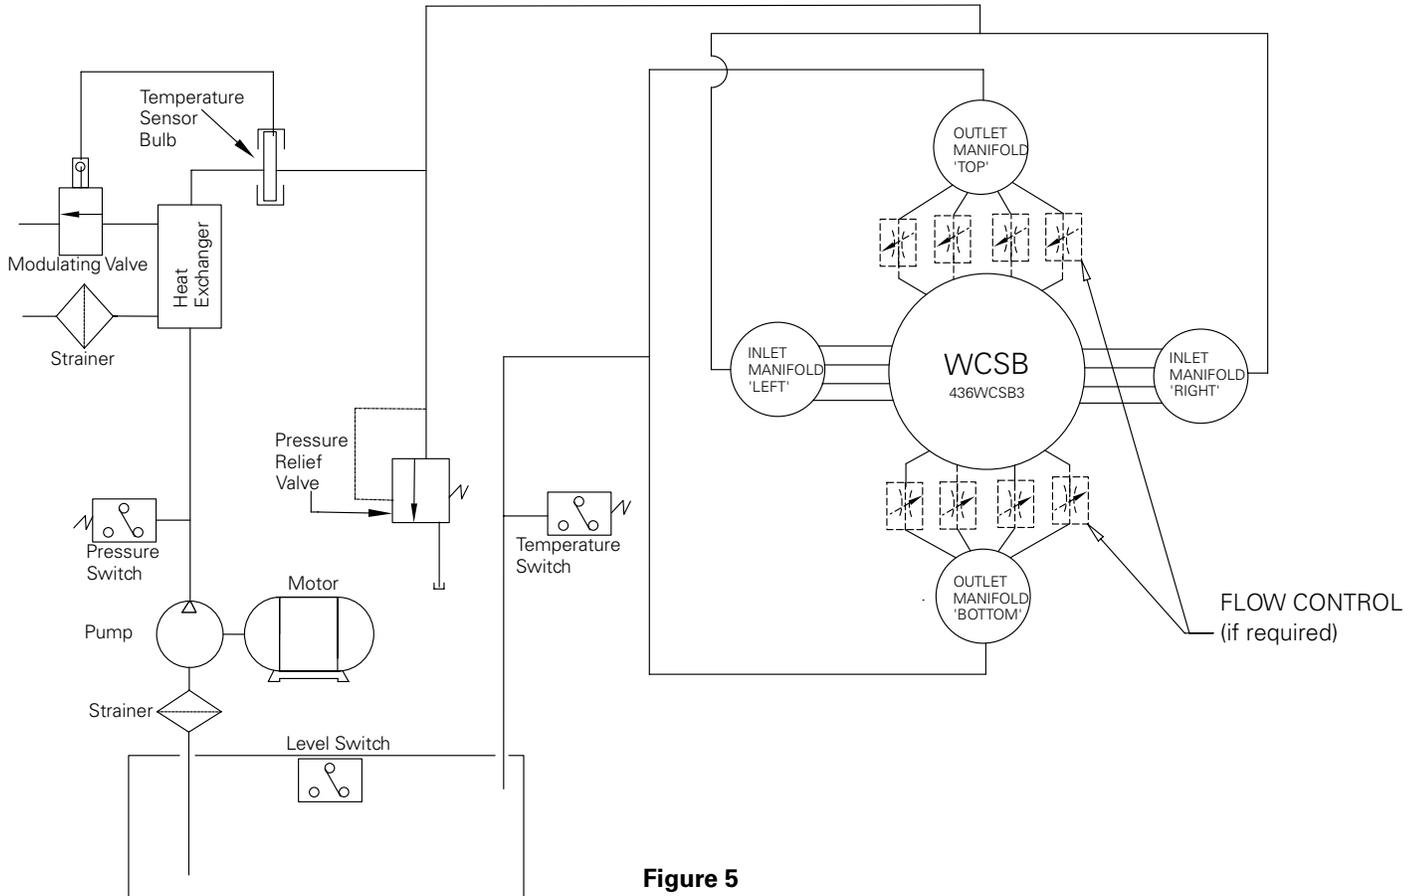

Figure 5
Do not plug any ports or plumb the cooling passages in series. Parallel arrangement of hoses similar to that shown in Figure 5 is required for proper coolant flow.
2.4.14 Figure 5 illustrates a typical closed loop liquid to liquid coolant system. The heat exchanger and temperature control would be replaced with a radiator, fan and motor in a liquid to air system
2.4.14.1 The schematic in Figure 5 illustrates a four disc tensioner (436WCSB3). Eight coolant supply lines feed the ports at the 3 o'clock and 9 o'clock position. Eight coolant return lines drain or recirculate coolant from the ports at the 12 o'clock and 6 o'clock position. Reference Table 9 for the quantity of hoses required for the 436WCSB3. Reference Table 6 for the percentage flow required at the outlet for the 436WCSB3.
2.4.14.2 Figure 5 illustrates the supply lines & hoses and the return lines & hoses are equal in length and flow controls are located on the return lines to balance flow.